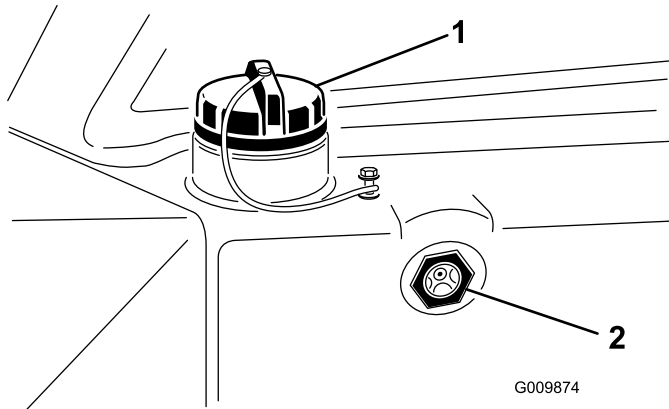

Figure 29
2. Check the fluid level by viewing it in the sight gauge (Figure 29).
4. If the fluid level is not at least at the bottom of the gauge when it is cold, remove the cap from the hydraulic fluid reservoir (Figure 29) and slowly fill the reservoir with high quality hydraulic fluid until the level in it reaches the bottom of the sight gauge.